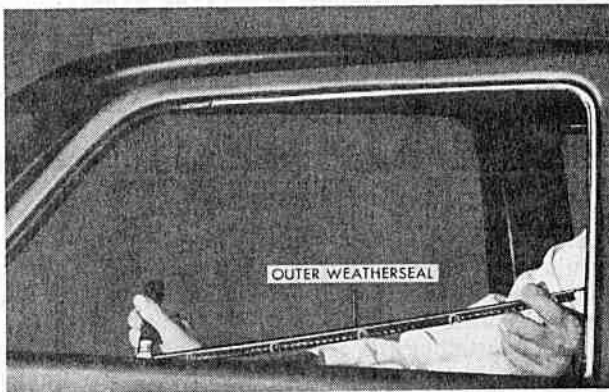

FIG. 18
**WINDOW WEATHERSEALS — INNER AND OUTER** The inner weatherseal is stitched to the garnish moulding and can be replaced only with a special stitching machine. To remove the outer weatherseal, release the clips by prying the weatherseal loose from the door with a putty knife or a similar tool (see Fig. 18).